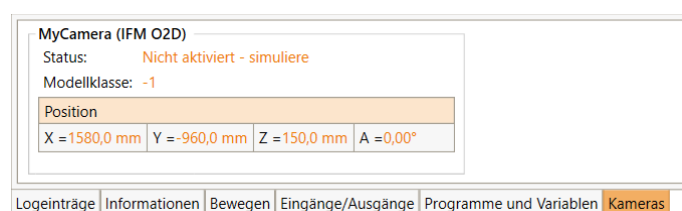

Figure 42: Camera status area
- CRI interface: The image is transmitted via the Ethernet interface to iRC and can be observed there in the camera status area (see fig. 42).